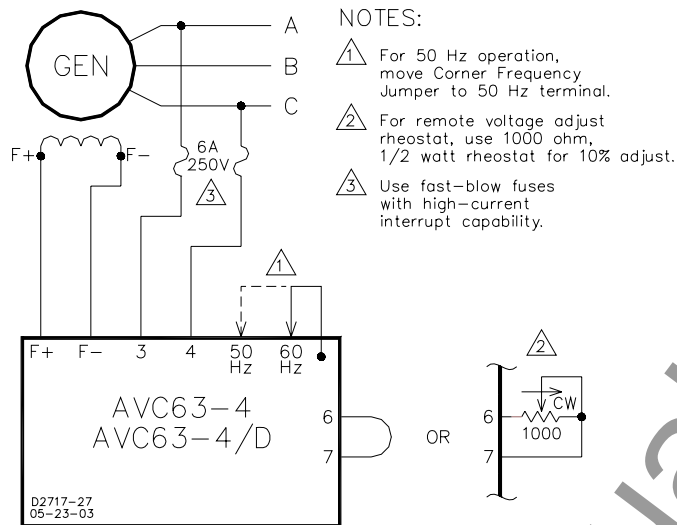

Figure 8. Typical Interconnection, 208/240 V Nominal
Figure 8 shows a typical interconnection diagram for the AVC63-4 and AVC63-4D controllers.
4. Install the fuses as shown in Figure 8.